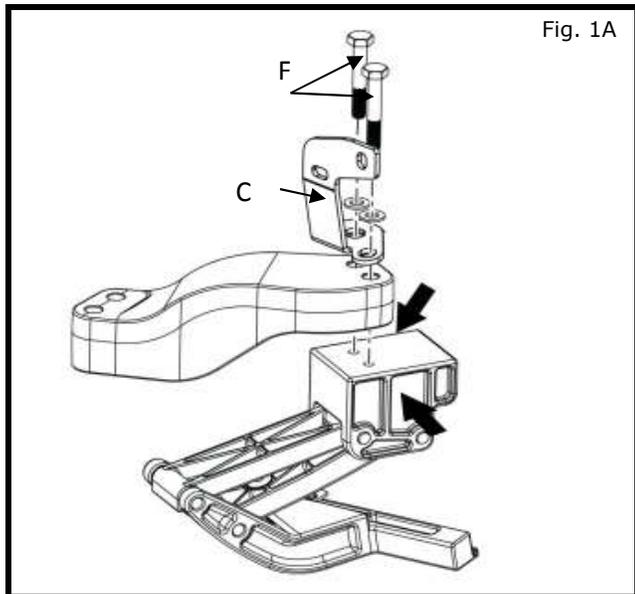

Fig. 1A
- 2) Secure linkage assembly in vice at points indicated by arrows in Fig. 1A.
Ensure bracket (C) is installed in orientation shown in Figures 1A and 1B.